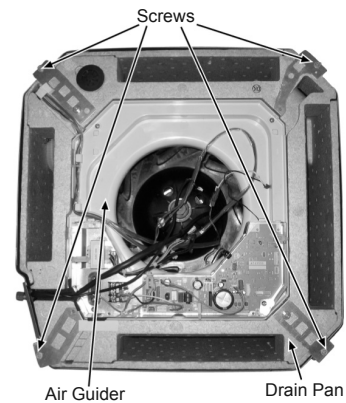

Fig. 6
- 6 Remove the Air Guider and Drain Pan complete by removing the screws (Fig. 6).